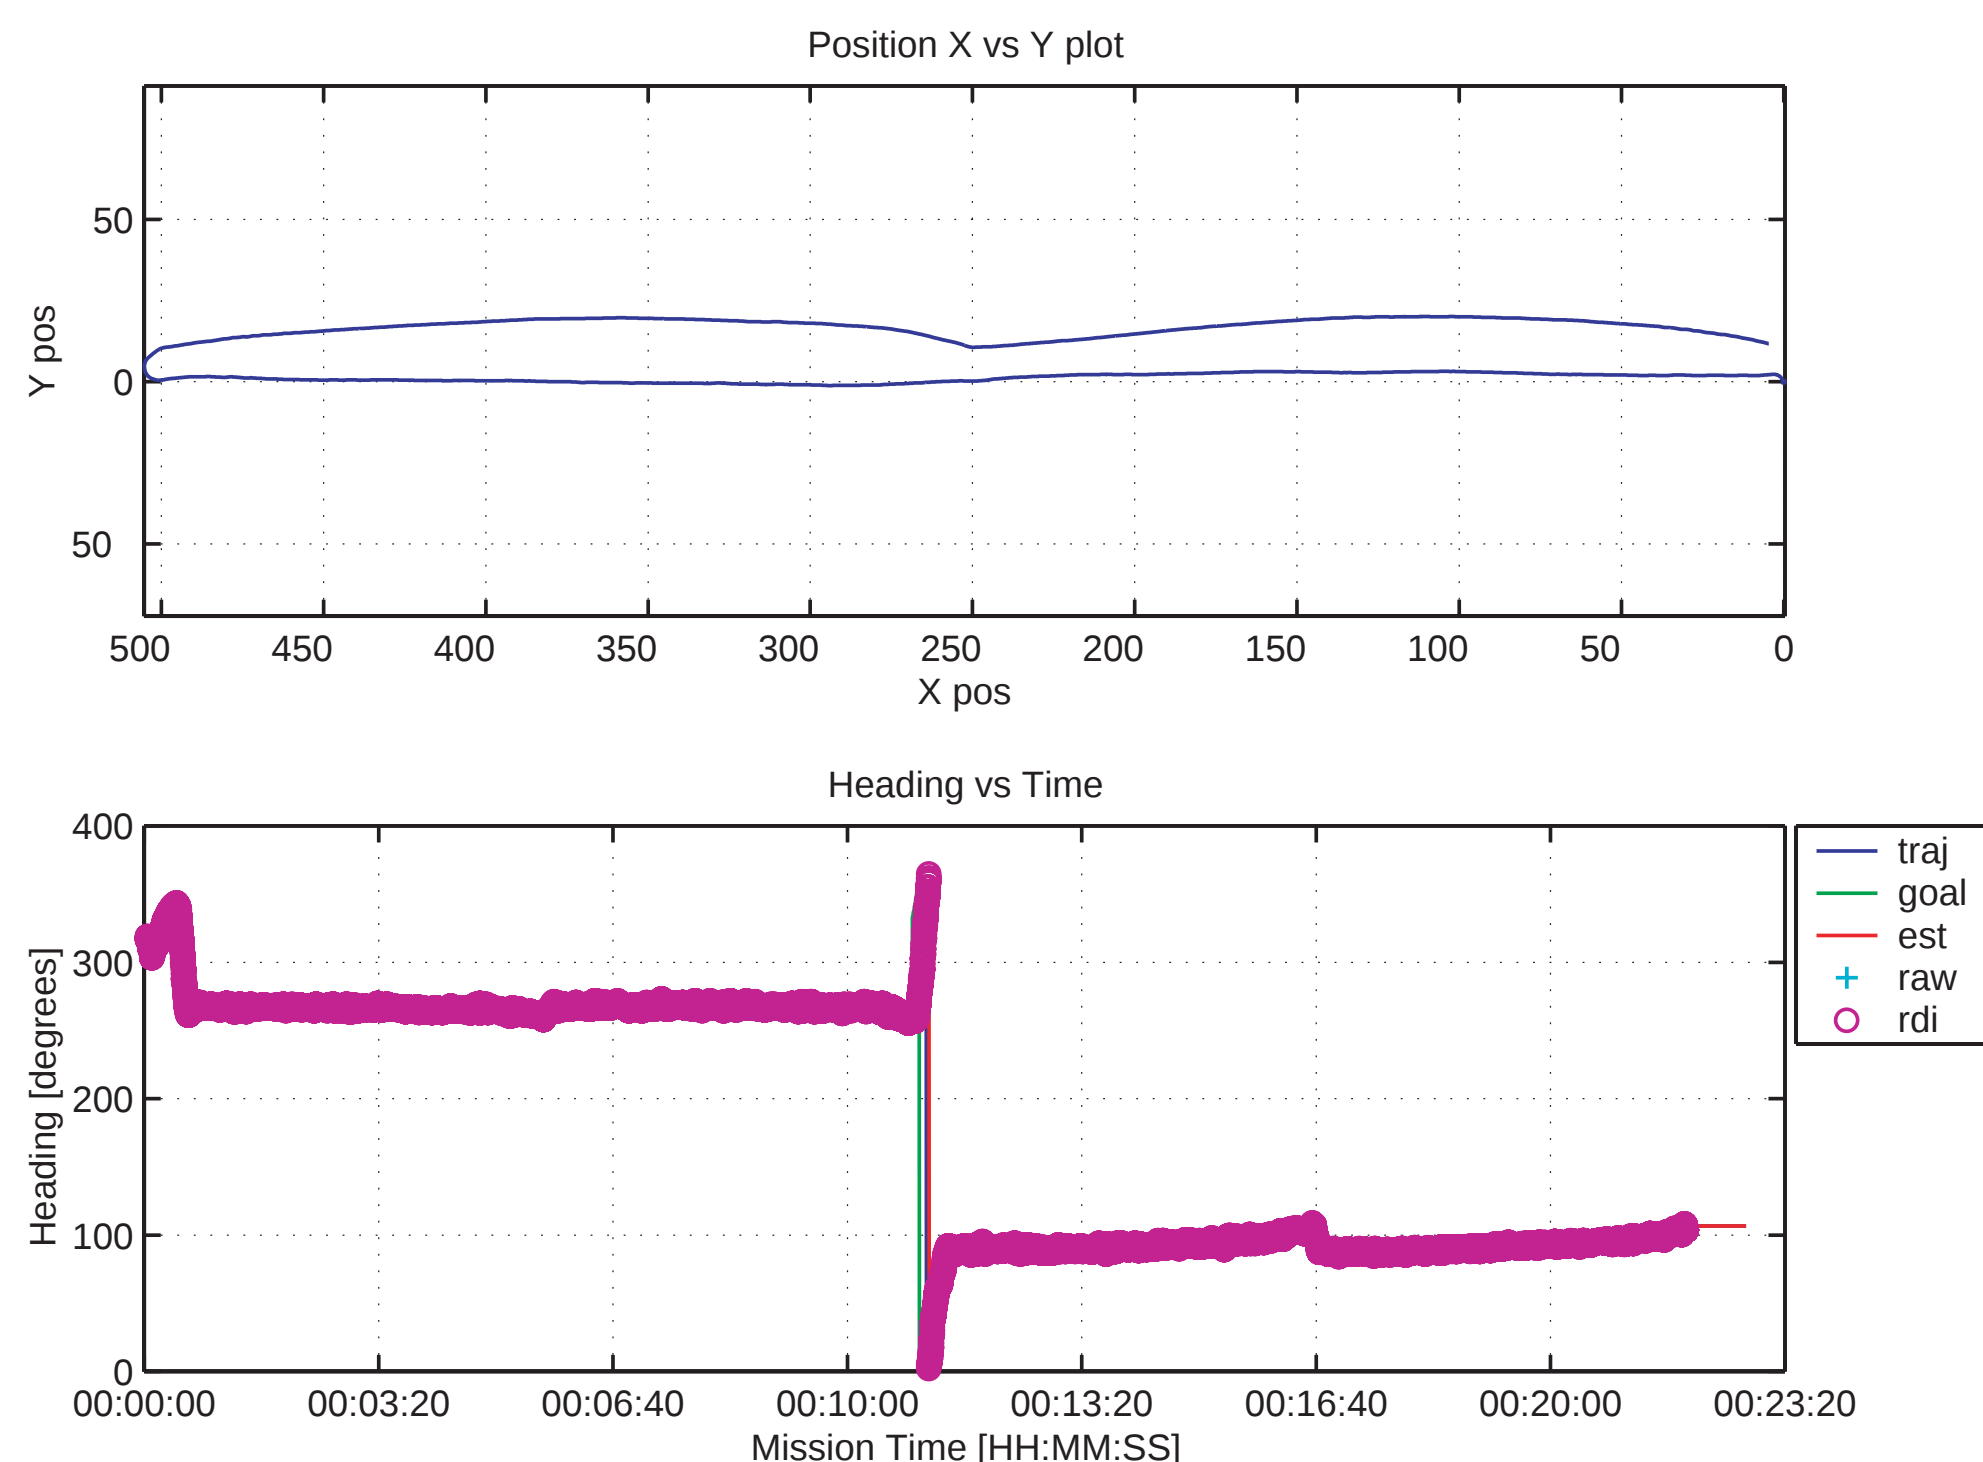

Figure 1. XY navigation plot (top) and Heading (below)
- We have demonstrated very precise navigation, trackline following, using our RD Instruments ADCP (see Figure 1 below for an example).
In Figure 1, the XY plot is shown on the top while the heading plot is shown on the bottom. In this case we were not track-following, instead just going to goal points but the performance in XY is stellar. Our heading servo also seems to be very tight (<1 deg).
One of our initial sidescan sonar missions was in Buzzards Bay where the bottom is flat mud with very few features. So we ran a mission and imagine our surprise when we saw this beautiful outline of a boat on the bottom (Figure 4) We had great nav and always knew we could go back to it but I was more concerned about evaluating our sonar performance so we trundled off to the Wee Peckets and ran a couple of missions there. Figures 1 through 3 were from one of the missions we ran there. That night while reviewing all our navigation and sonar data I found